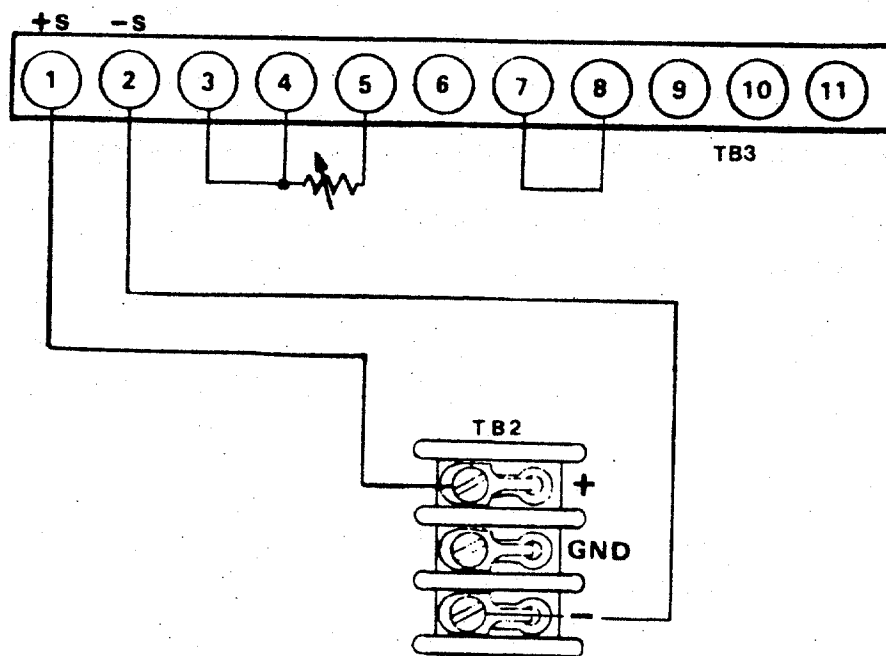

Figure 3-5 Voltage Mode Programming Connections
3.2.3 Resistance Programming Voltage Mode (Figure 3-5)
2. Remove link between terminals 5 and 6, and connect a programming resistor between terminals 4 and 5 (Figure 3-5). Use shielded or twisted wire for interconnecting leads.